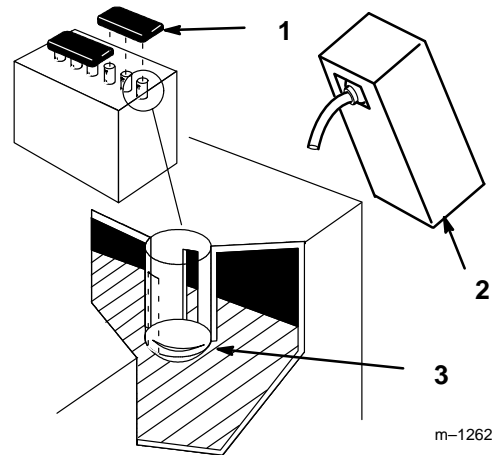

Figure 5
2. Remove filler caps from the battery. Slowly pour electrolyte into each cell until the electrolyte level is up to the lower part of the tube (Fig. 5).
5. Slowly pour electrolyte into each cell until the level is once again up to the lower part of the tube in the battery and install covers (Fig. 5).